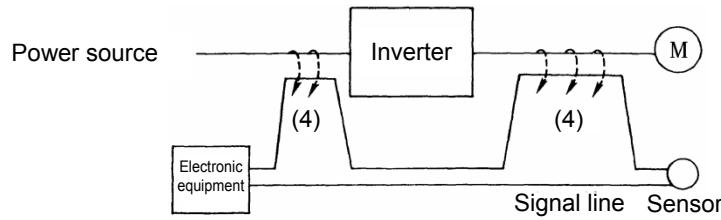
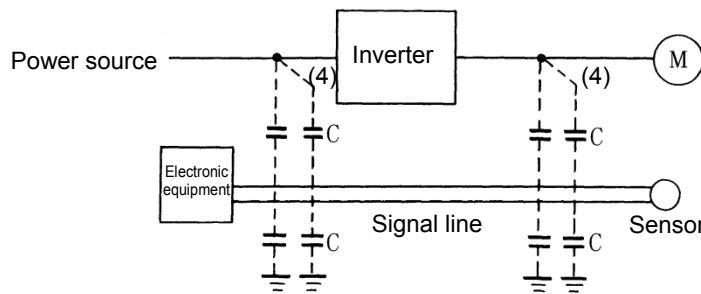

Figure A-4 Electromagnetic Induced Noise
Figure A-5 Electrostatic Induced Noise
(2) Induction noise
When wires or signal lines of peripheral devices are brought close to the wires on the input and output sides of the inverter through which noise current is flowing, noise will be induced into those wires and signal lines of the devices by electromagnetic induction (Figure A-4) or electrostatic induction (Figure A-5). This is called “induction noise” (4).